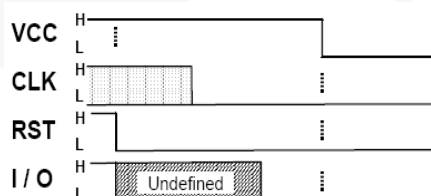

Figure 15. Deactivation (ISO 7816-3 2006)
To ensure the SIM card electrical circuits properly deactivate before the contacts of the SIM card are mechanically connected, ISO7816-3 2006 mandates the sequence of events described in Figure 15. The FXLA2203 provides full transparency to the deactivation timing between host and SIM card.
1. Complete deactivation timing (see Figure 15).